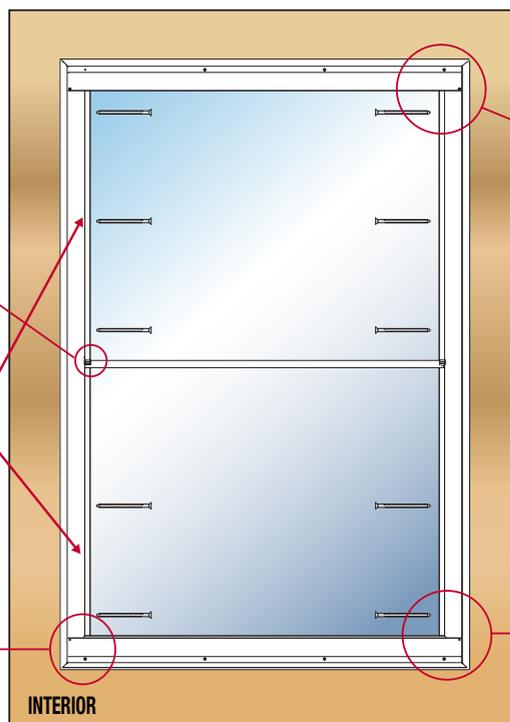

FIGURE 3
- Using shims within 1" of each screw hole along both jambs and under the corners of the sill, center the panel in the opening both vertically and horizontally. Shim to square and plumb (Figure 3).
- Install a provided screw into the top pre-punched hole in each jamb (Figure 3).